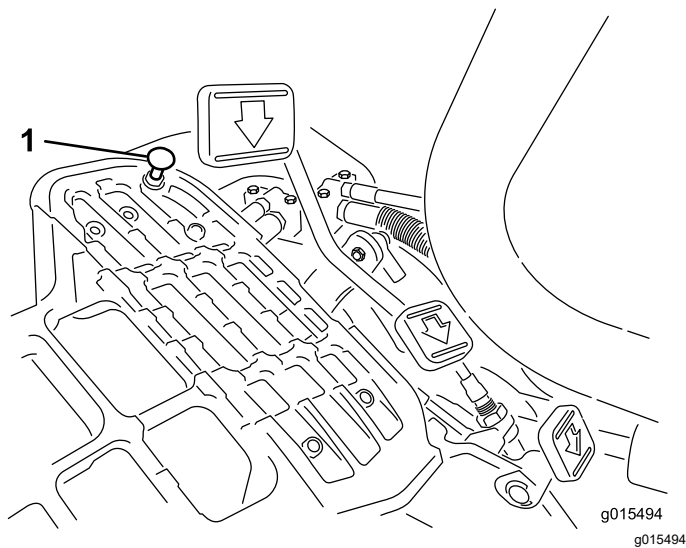

Figure 36
To obtain the maximum-transport speed, put the functional control lever in the TRANSPORT position and press down on the traction pedal. If the pedal contacts the stop (Figure 36) before you feel tension on the cable, perform the following adjustment procedure:
1. Put the functional-control lever in the TRANSPORT position and loosen the locknut securing the pedal stop to the floor plate (Figure 36).